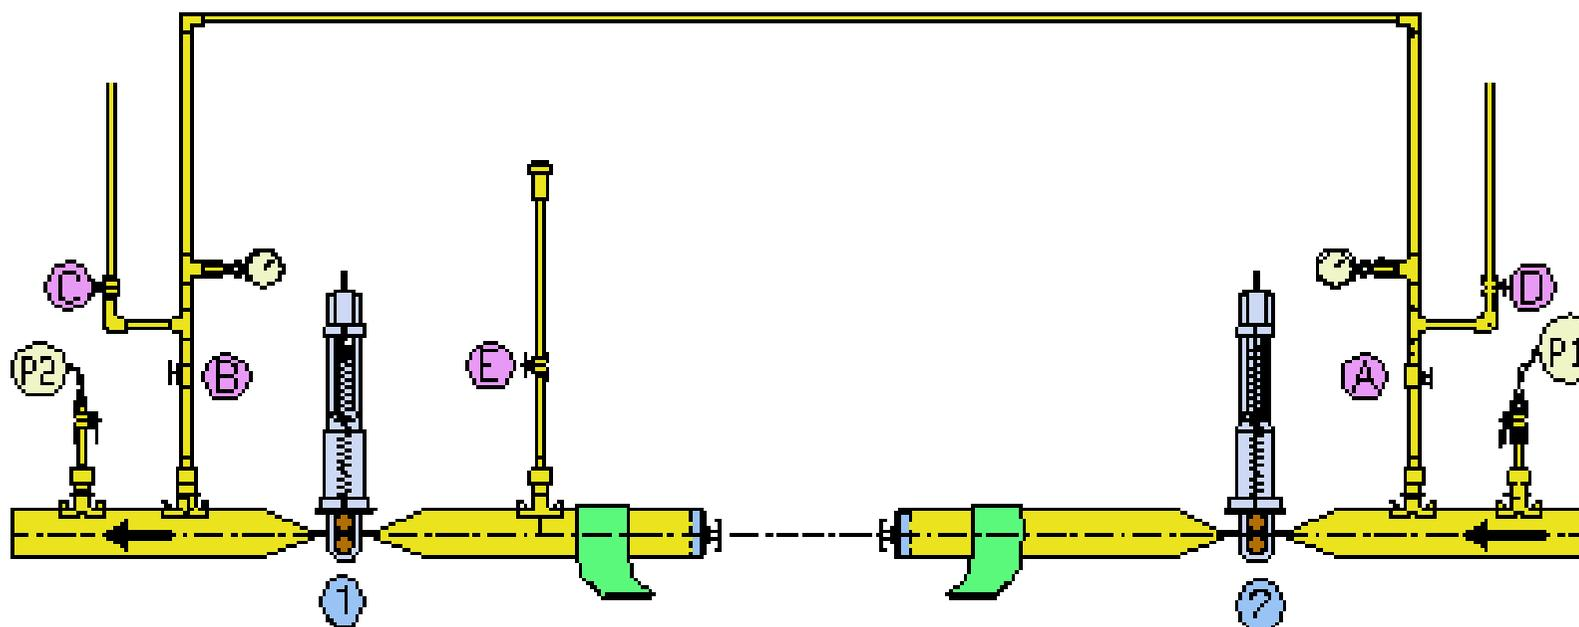

Figure 48- Installation of Expanding Stoppers
6. Install expanding stoppers whilst preparing fittings for installation see Figure 48.
- b) Check at the vent E see Figure 48 between the squeeze-offs to establish whether there is any gas passing.
- a) Position both squeeze-offs and a centre vent E (see Figure 48) at the required squeeze-off positions on one of the pipes. Set the stops to the pipe size and then squeeze-off.
- b) Check at vent E (see Figure 48) between the squeeze-off to establish whether there is any gas passing.
- c) If there is no gas passing, close vent E see Figure 48 and proceed to step f. below.
- b) Re apply squeeze-off and check vent E see Figure 48.